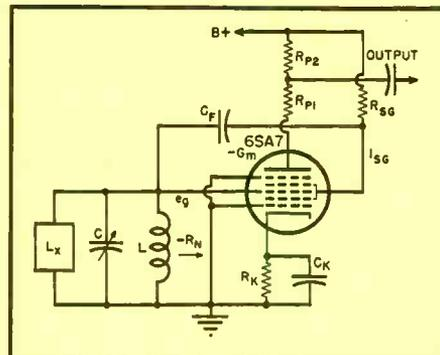

Fig. 2. Elementary circuit of the 6SA7 negative resistance oscillator.
The conditions to produce oscillation in the circuit (Fig. 2) are: (1) the feed back capacitor ( $C_F$ ) must have negligible reactance compared to the grid circuit resistance, and (2) the tuned circuit must have a parallel resonant impedance greater than the absolute magnitude of  $R_N$ . The frequency of oscillation will be very nearly equal to the resonant frequency of the tuned circuit. Over a limited range the grid to screen transconductance of the 6SA7 is negative; that is, the screen current ( $i_{sg}$ ) increases as the grid voltage ( $e_g$ ) decreases. Since more electrons are deflected to the screen as the grid voltage decreases, the plate current is correspondingly reduced. Therefore, a decrease in voltage causes an increase in current (looking in at the grid), and the tube acts like a negative resistance ( $-R_N$ ).
The Q of the oscillator coils was made as high as possible to reduce the tendency for the oscillators to shift in frequency. In addition, the two oscillators were decoupled as shown in Fig. 2 by the dividing network ( $R_{p1}$  and  $R_{p2}$ ) the ratio being approximately: